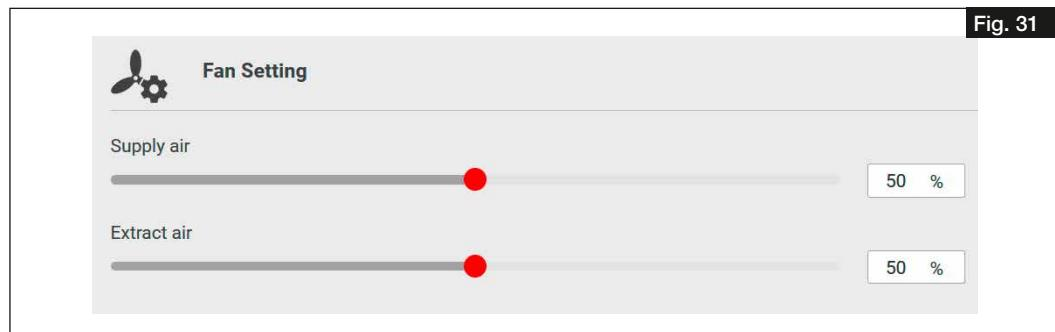

Fig. 31
5. Enter the fan powers for supply and extract air according to the determined values for nominal ventilation under "Fan setting" (cf. Fig. 31).